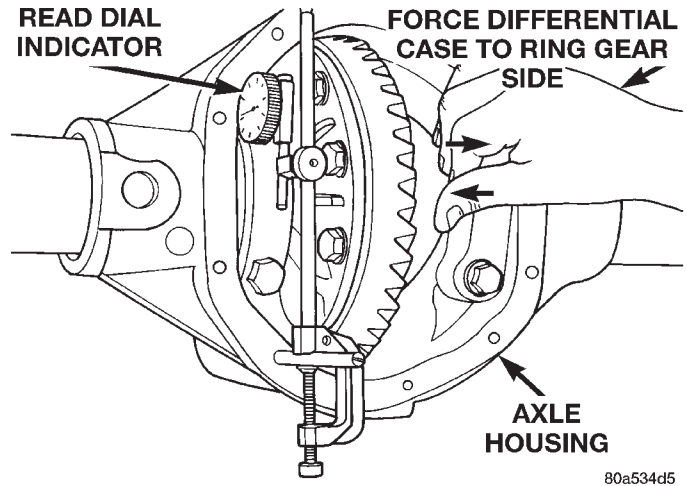

Fig. 70 Hold Differential Case and Read Dial Indicator
- (12) Push and hold differential case to ring gear side of the axle housing (Fig. 70).
- (13) Record dial indicator reading (Fig. 70).
- (14) Add the dial indicator reading to the starting point shim thickness to determine total shim thickness to achieve zero differential end play.
- (15) Add 0.008 in. (0.2 mm) to the zero end play total. This new total represents the thickness of shims to compress, or preload the new bearings when the differential is installed.